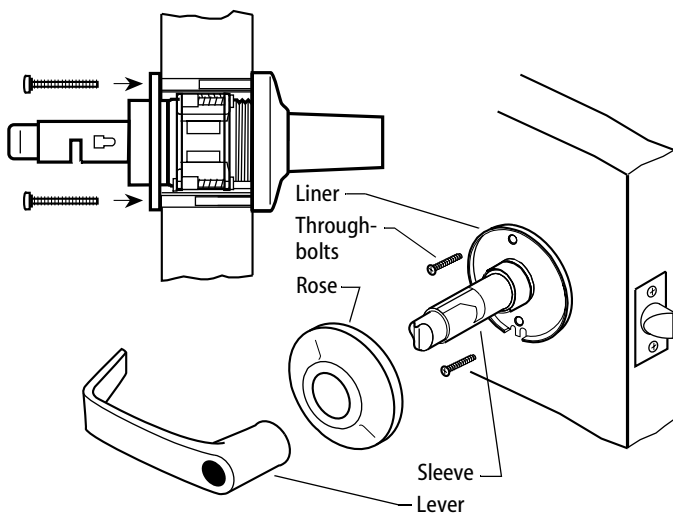

Figure 6 — Installing the inside liner, rose, and lever
- Install through-bolts through the liner and the door in the top and bottom holes. See Figure 6.